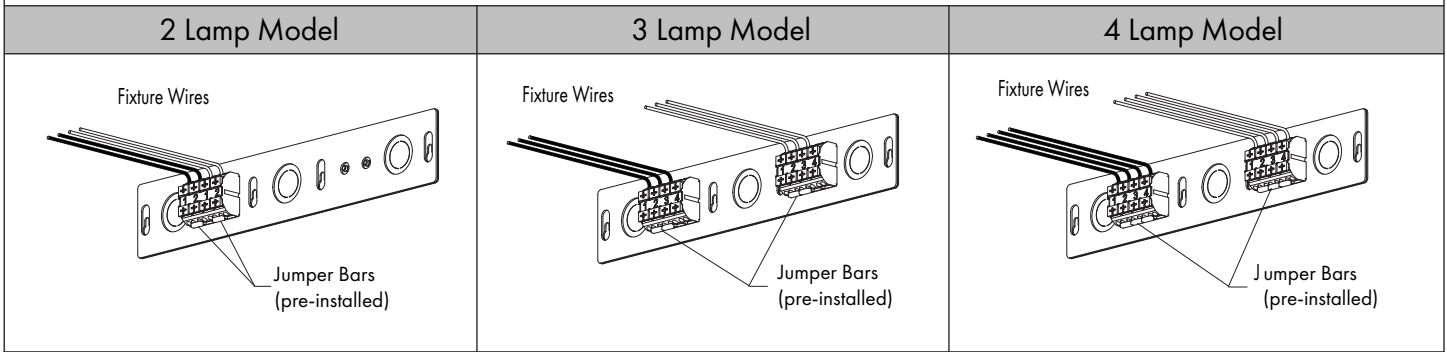

FIG 27.1 Jumper Bars
- STEP 1** Remove jumper bars from terminal blocks as needed for individual lamp control - **FIG 27.1**.